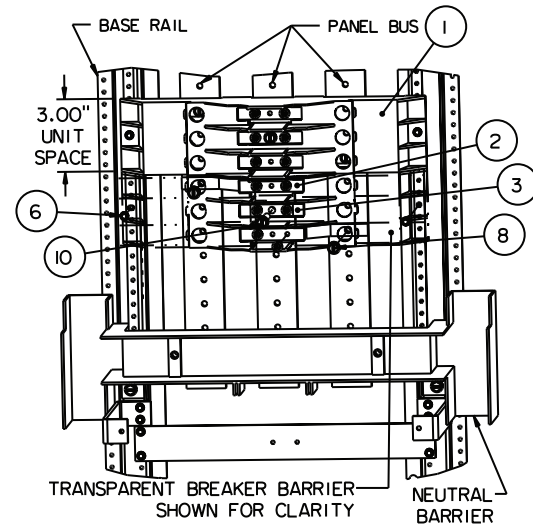

Figure 5
6. Reference Figure 5 (on next page):